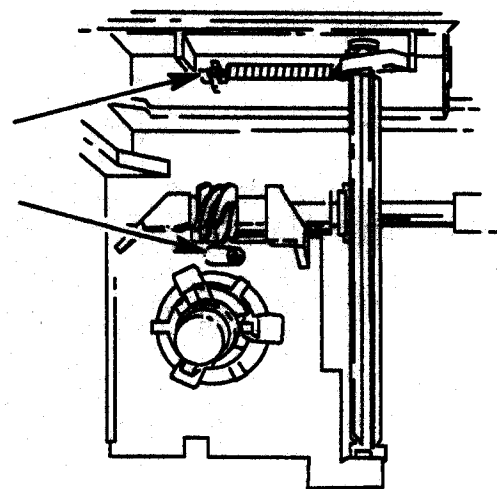

Figure 6-21. Carousel Turntable And Mount Removal
- d. Using a common screwdriver, carefully press in on the three tabs on the carousel mount and lift the carousel turntable off of the mount. See Figure 6-21.
- e. Disconnect the engaging lever spring from the standoff located on the left chassis. See Figure 6-21.
- f. Remove the self-tapping screw holding the carousel mount to the chassis. See Figure 6-21.